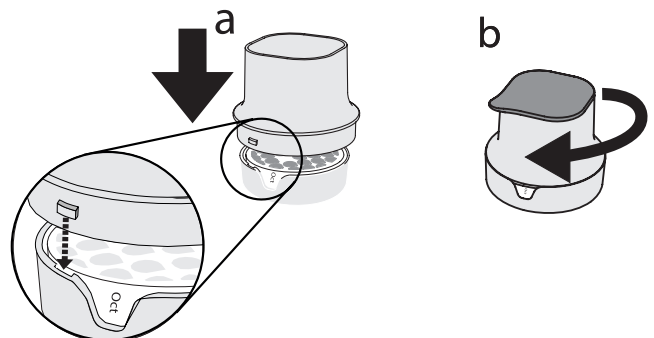

Fig 7
**Close the filter (Fig. 7):**